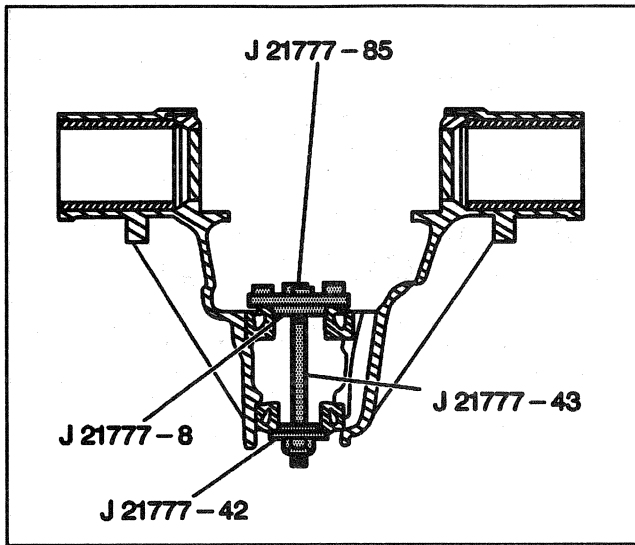

Figure 12—Gauge Plate Tools
4. Install J 21777-8, J 21777-42, J 21777-85, and J 21777-43 to the pinion bore (Figure 12).